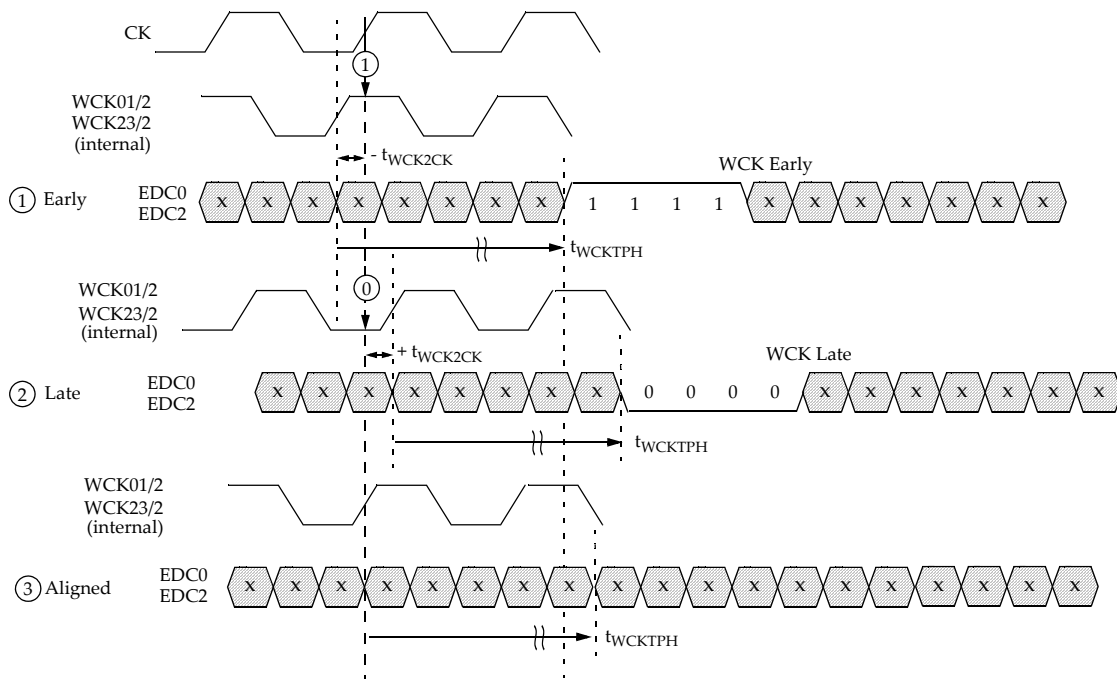

Figure 14 — EDC pin Behaviour for WCK2CK Training (assumes '1111' as EDC Hold Pattern)
Figure 14 illustrates how the WCK phase information is derived. The phase detectors (PD) sample the internally divided-by-2 WCK clocks. Only one sample point is shown in the figure for clarity. In reality, when WCK2CK training mode is enabled, a sample will occur every t_{CK} and will be translated to the EDC pins accordingly. If the divided-by-2 WCK clock arrives early, then the EDC pin outputs the EDC hold pattern during the time interval specified in Figure 14. If the divided-by-2 WCK clock arrives late, then the EDC pin outputs the inverted EDC hold pattern during the time interval specified in Figure 14. This is shown in Table 12. **Finally, if the divided-by-2 WCK and CK clocks are perfectly aligned at the PD, the EDC pins are indeterminate.**